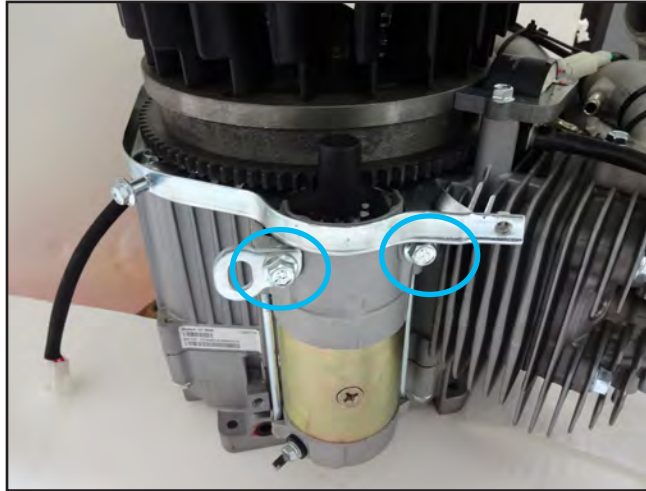

Figure 10
1. Remove the two mounting bolts and the electric starter (Figure 10).